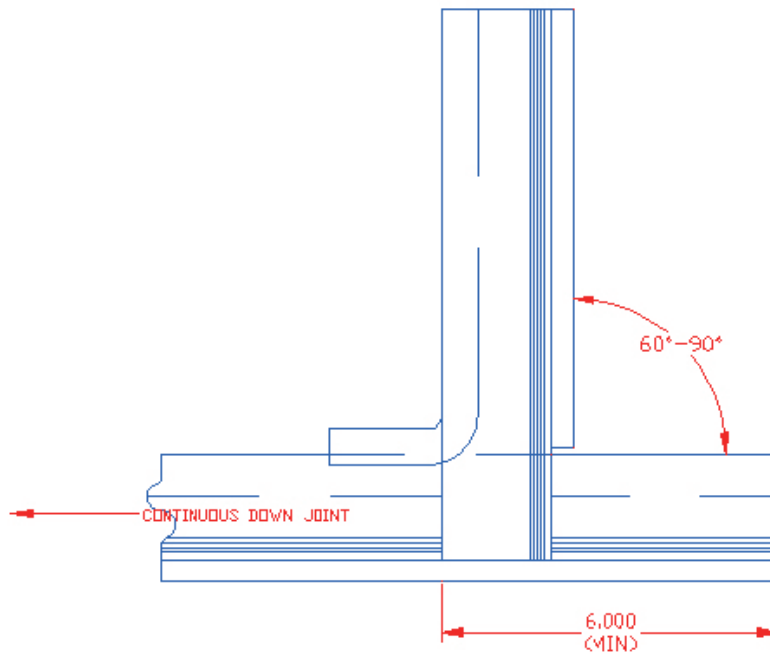

Figure 6 – Installed 90° upturn
- While the V-Epoxy-R is still wet, install the upturns at the specified angle as shown in Figure 6.